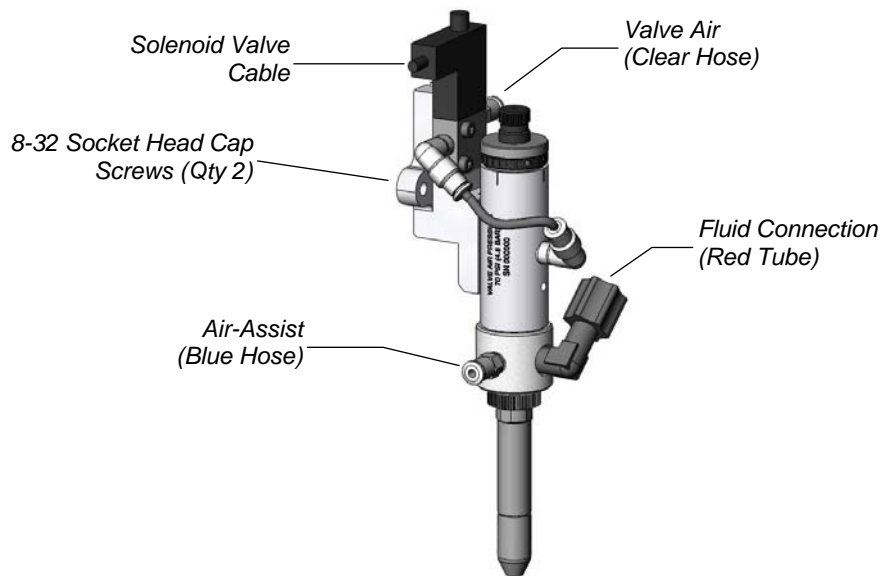

Figure 3-2 Connection Diagram - Century C-740
4. Connect the pneumatic hoses as shown in Figure 3-2.